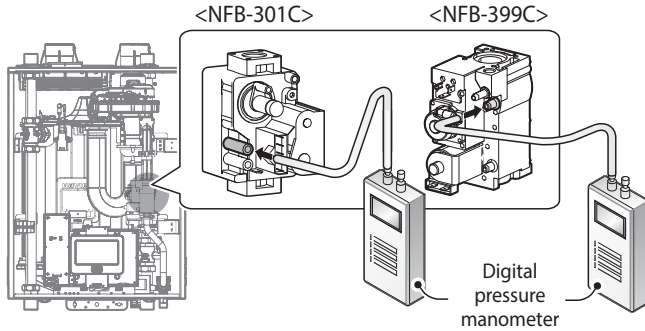

Figure 9. Connect Digital Pressure Manometer
- a. Open the offset pressure port by loosening the screw two turns as shown in Figure 9.